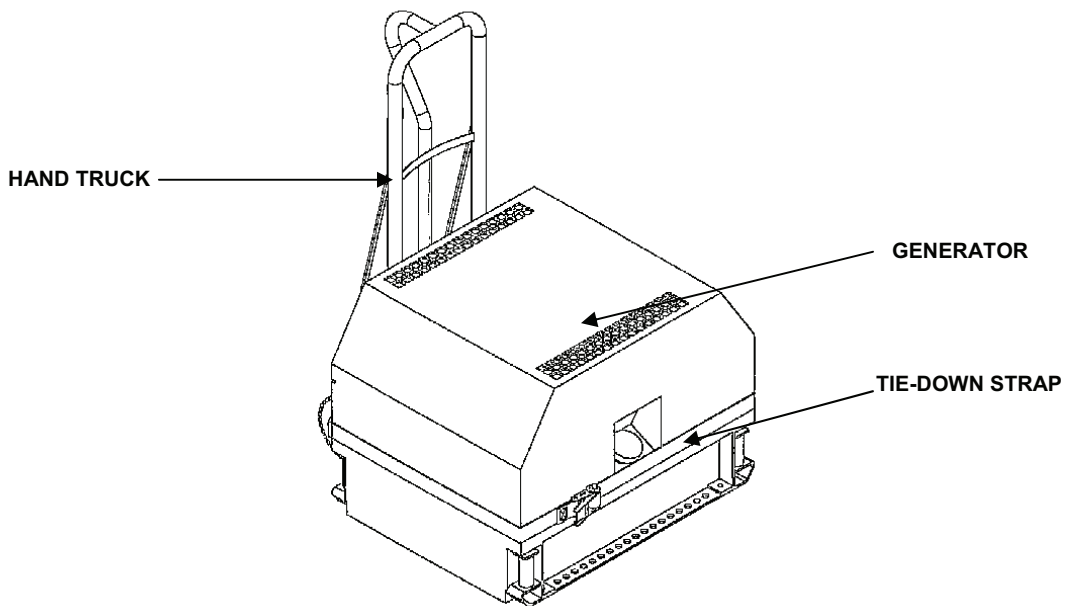

Figure 3. Loading 3kW Tactical Quiet Generator Set on Hand Truck.
16. Place the 3kW TQG set on the hand truck with the fuel fill cap forward. Secure with tie-down strap. See Figure 3.